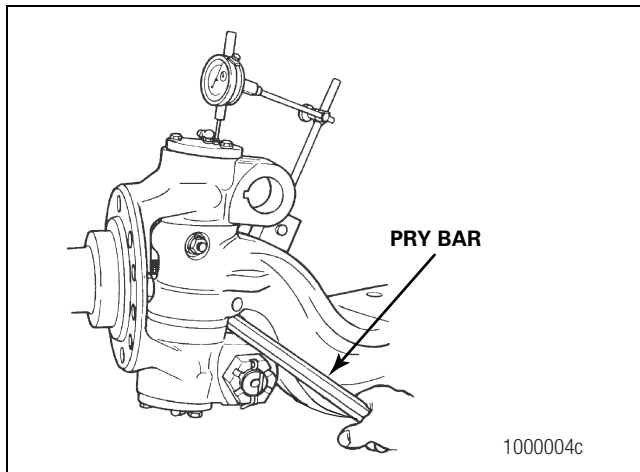

Figure 3.3
- Place a pry bar between the boss for the tie rod arm and the I-beam. Push the knuckle to the BOTTOM of vertical travel. Figure 3.3.